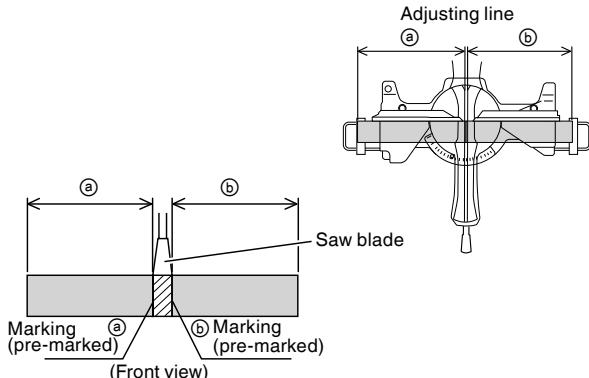

Fig. 25
- (1) As shown in Fig. 25 the width of the saw blade is the width of the cut. Therefore, slide the workpiece to the right (viewed from the operator's position) when length ④ is desired, or to the left when length ⑤ is desired. If a laser marker is used, align the laser line with the left side of the saw blade, and then align the ink line with the laser line.
- (2) Once the saw blade reaches maximum speed, push the handle down carefully until the saw blade approaches the workpiece.
- (3) Once the saw blade contacts the workpiece, push the handle down gradually to cut into the workpiece.
- (4) After cutting the workpiece to the desired depth, turn the power tool OFF and let the saw blade stop completely before raising the handle from the workpiece to return it to the full retract position.